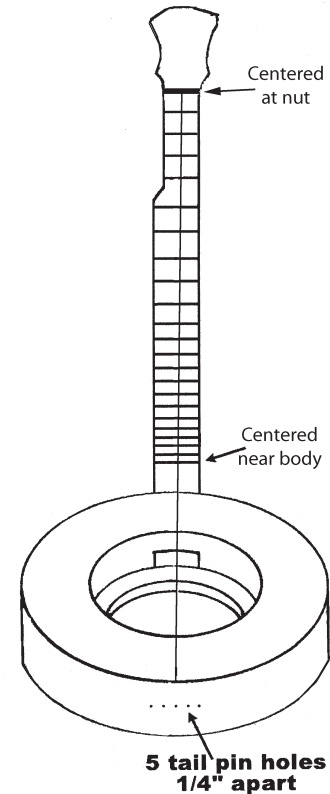

FIG. 25
21. Find the center of the fretboard at each end, as shown in diagram. (fig. 25) Put masking tape on the wood for marking these centers. Notice that the line between these two centers will be off-center in the middle of the fretboard, but that's OK. We are allowing room for the short 5th string.
22. Lay a long straight-edge between these two center points and down to the bottom of the body. Mark where the line ends at the bottom, and extend it over the edge and down an inch or so on the side of the body. Use a ruler to draw a perpendicular line on the side of the body, and to mark 5 points spaced about 1/4" apart, two marks on either side of the center point, as shown in drawing. (fig. 25)